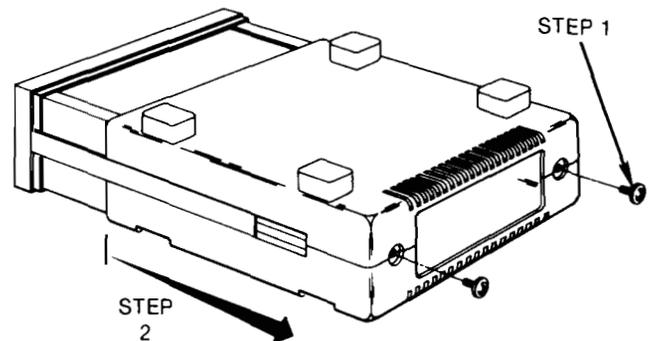

Figure 2-1. Top and Bottom Cover Removal
To verify the line voltage (or change the fuse), the operator must first remove the top and bottom covers. Remove the top and bottom using the following steps and figure 2-1.
5. Secure covers to unit using two screws as shown in figure 2-1.